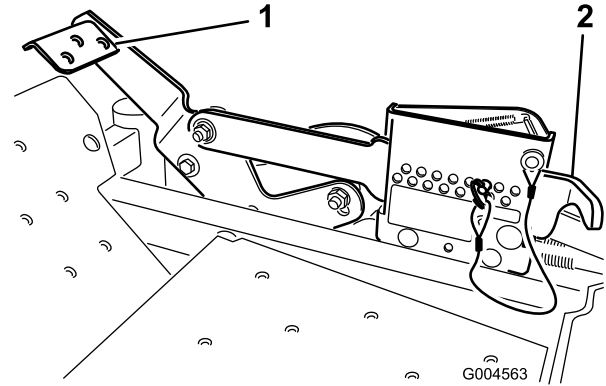

Figure 17
2. Press on the lift assist lever while pulling up on the height-of-cut lever (Figure 17).